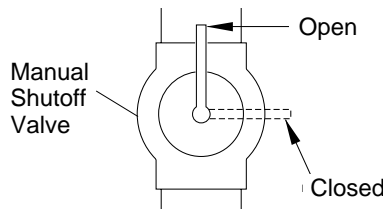

Figure 24 - Manual Shutoff Valve
1. Close manual shutoff valve (see Figure 24).
1. Open manual shutoff valve (see Figure 24).